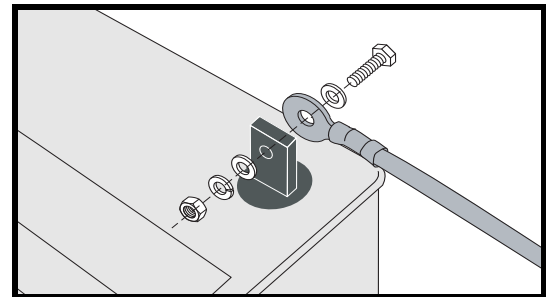

Figure 13B. Cable To Terminal Connection
*NOTE: See figure 13B for correct hardware placement for battery terminal connections.*